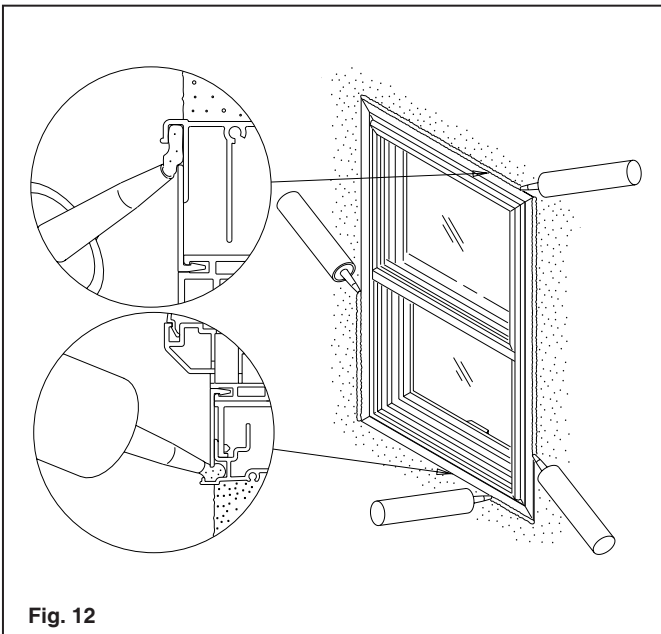

Fig. 12
B. Use a recommended sealant for the type of job and materials being used to apply a continuous bead of sealant around the outer edge of the trim you just installed. See Fig. 12.